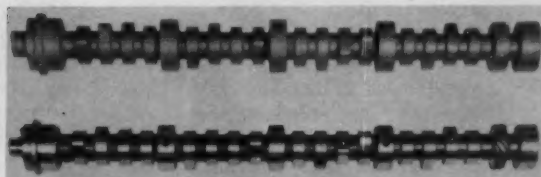

Fig. 6—Shell-molded automotive camshaft notable for less scrap than conventional castings, shown here before and after machining.
AUTOMOTIVE CAMSHAFT, Fig. 6: Among the advantages of shell-molded camshafts are: (1) better dimensional control for automatic handling; (2) better tool life due to absence of burned-in sand; and (3) cleaner side surfaces on cam lobes, providing freedom from ragged edges.